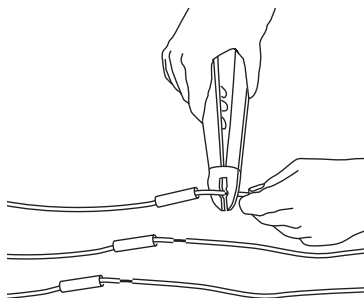

Fig. 5 Crimping the connectors
4. Slide the heat shrink tubing on to each lead. Insert a properly sized "Sta-kon" type connector on each lead, making sure that lead colors are matched. Using a "Sta-kon" crimping pliers, indent the lugs; see fig. 5. Be sure to squeeze hard on the pliers, particularly when using large cable.